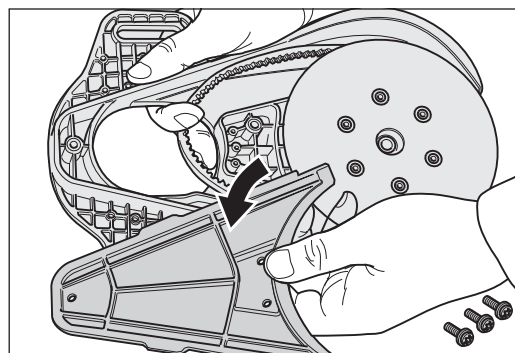

Fig. 41 Remove the attachment cover from the attachment.
- 7** Use the universal spanner to undo the fixing screws of the attachment cover and remove this from the attachment (fig. 41).